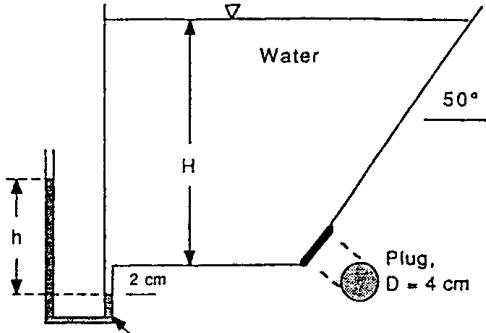

Fig. P2.63
**2.63** The tank in Fig. P2.63 has a 4-cm-diameter plug which will pop out if the hydrostatic force on it reaches 25 N. For 20°C fluids, what will be the reading  $h$  on the manometer when this happens?